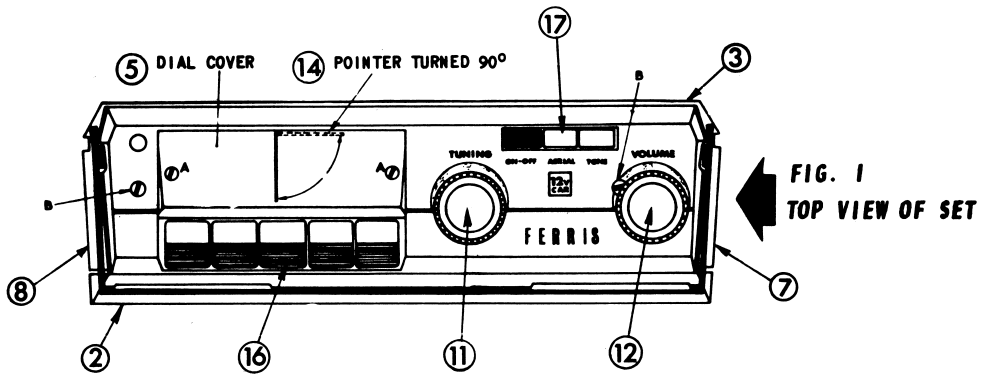

FIG. 1
3. Remove screws marked "B" (FIG. 1) and lift off canopy. When replacing the canopy see that the 3 small buttons between the tuning and volume knobs are in the "UP" position as this will assist in reassembly. Ensure also that the canopy locates accurately into the top of the set before replacing the fixing screws "B."